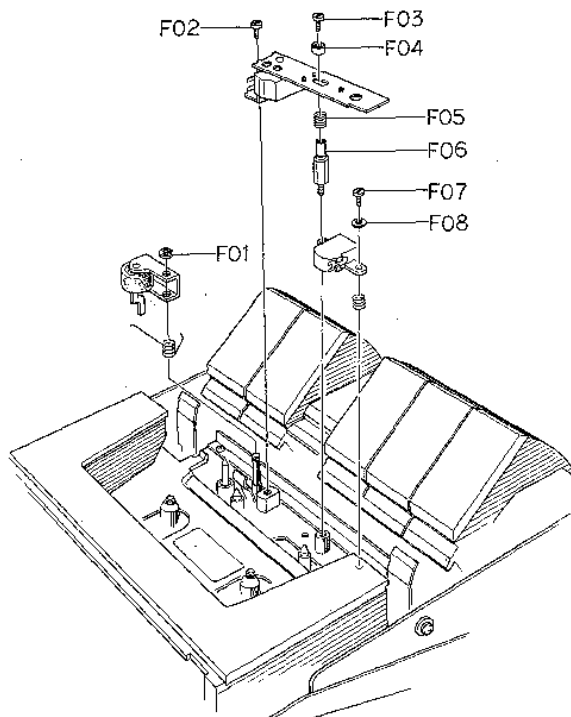

Fig. 3.4
Refer to Fig. 3.4. Remove front panel ass'y referring to item 3.5.
- (1) Pressure Roller Ass'y